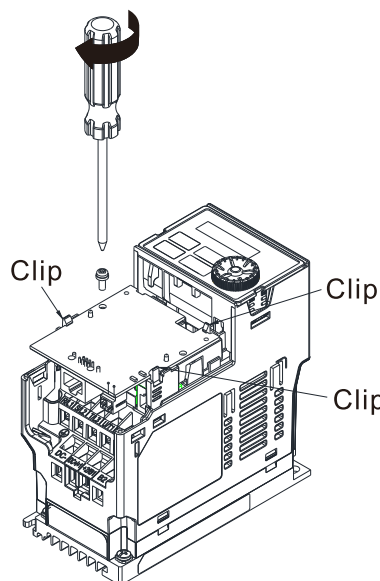

Figure 8-24
6. As shown in the Figure 8-24, make sure that three clips are properly engage the adapter/ option card and then fasten the screw [Suggested torque value: 4–6 kg-cm / (3.5–5.2 lb-in.) / (0.39–0.59 Nm)].